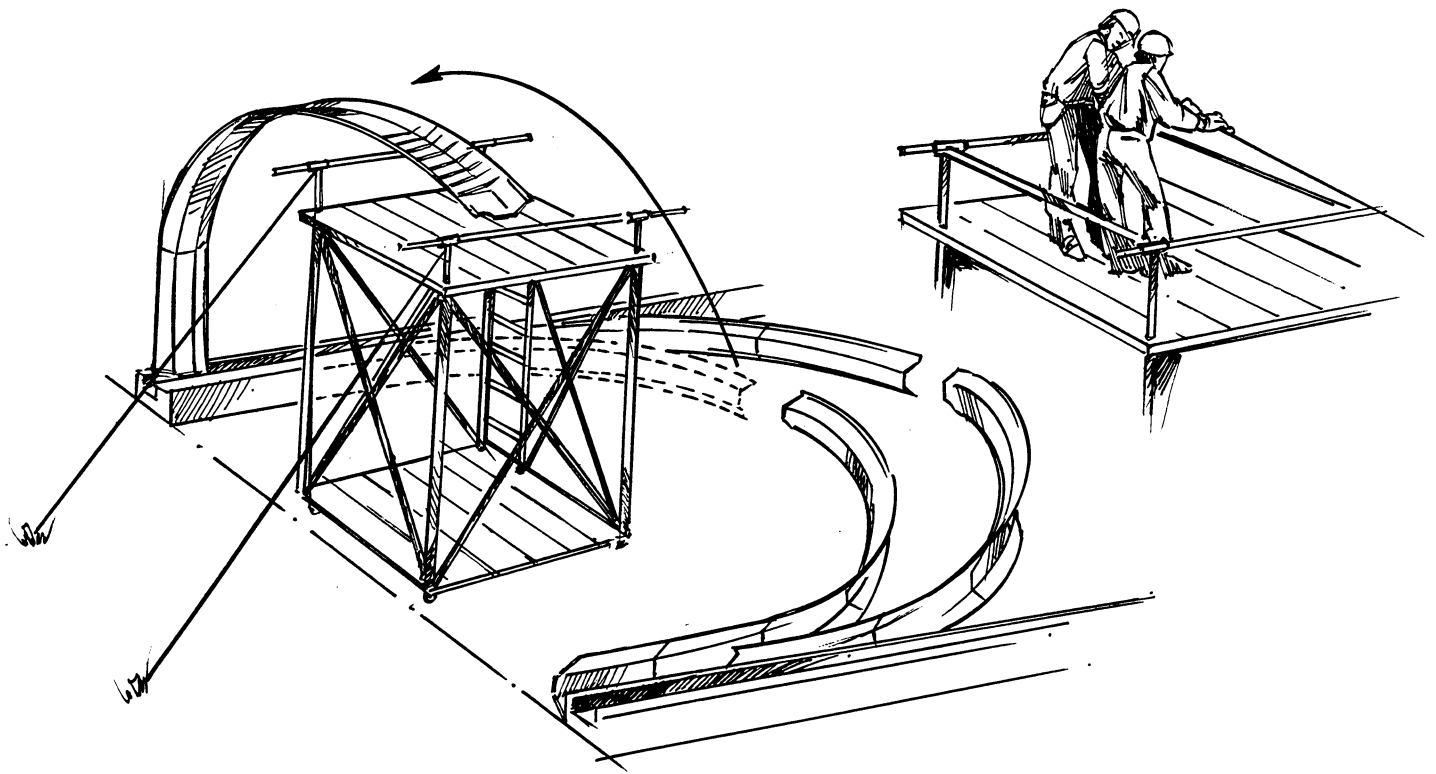

Fig.19A
5. Support the top end on the scaffold as shown in fig.19A, and secure it temporarily by means of ropes or otherwise.